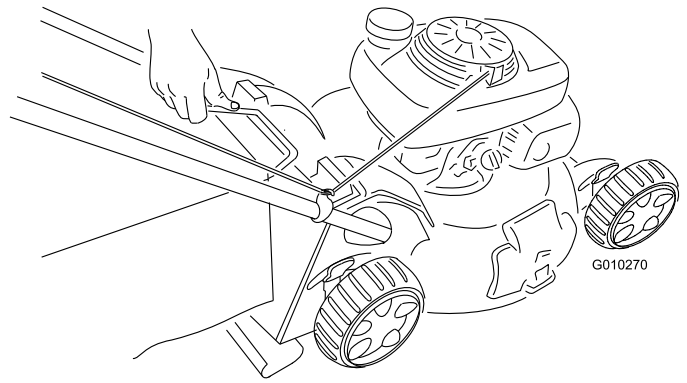

Figure 35
2. Lift the grass bag handle out from the grooves at the top of the mower and remove the bag from the mower (Figure 35).